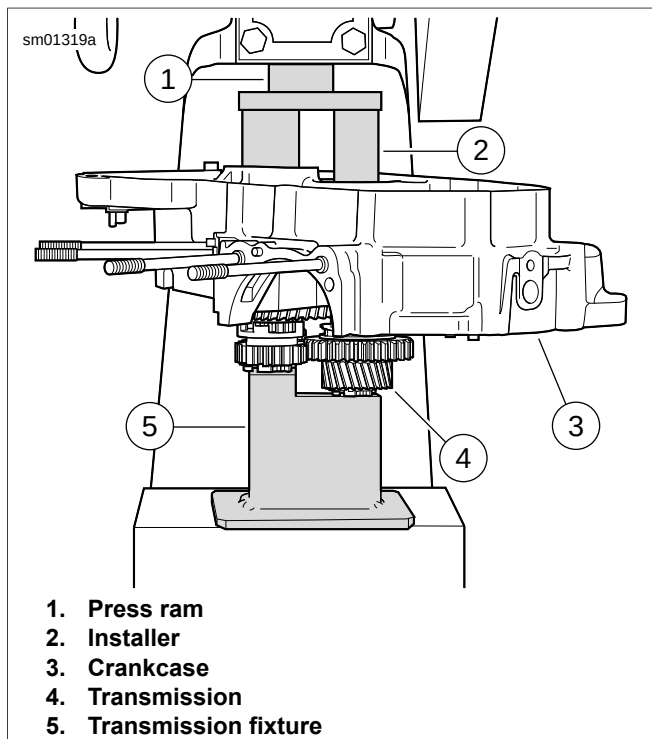

Figure 5-91. Pressing Transmission into Left Crankcase
- See Figure 5-91. Install left crankcase (3) over transmission assembly (4).
- Place the INSTALLER (Part No. B-43985-3) (2) over mainshaft and countershaft bearings in crankcase.
- Position crankcase and transmission assemblies on press with installer under press ram (1).